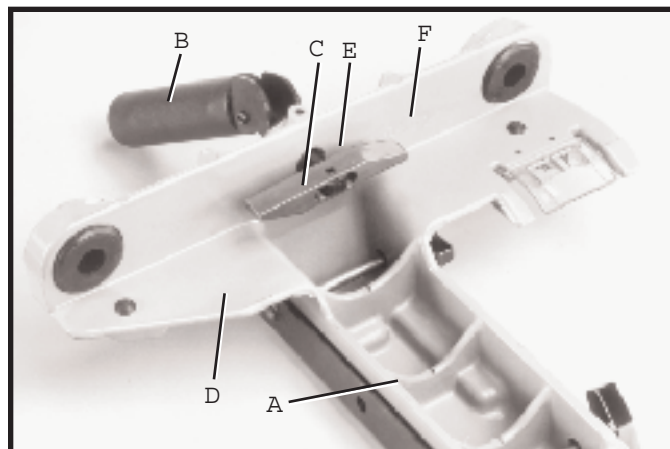

Fig. 43
1. Turn fence body (A) Fig. 43, upside down and lay it on a table or bench. Push handle (B) in against fence body. Make certain the surface (C) of clamp bracket is parallel to the face (D) of the fence body, and that the inside edge (E) of the clamp bracket is parallel to surface (F) of the fence body. Turn handle (B) Fig. 43, if necessary.